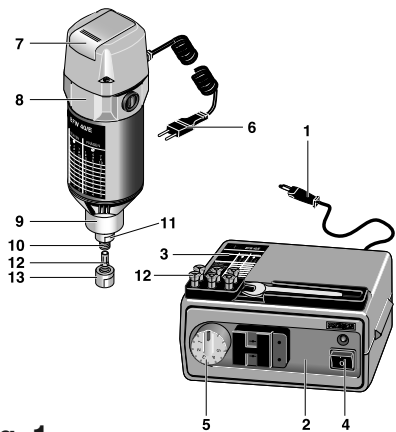

Fig. 1
Key (Fig. 1):
5. Switch on the motor by pressing button 7 (Fig. 1).